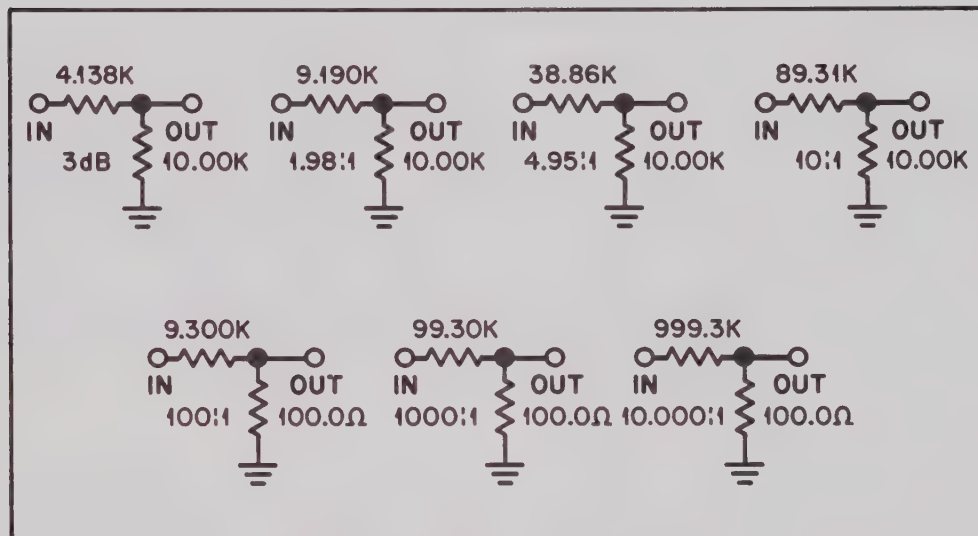

Figure V-1. ATTENUATOR SUITABLE FOR
(8) Set of Attenuators, 0.2% accurate with a 600 ohm source and a 10 megohm load. Suitable attenuators are shown in Figure V-1 below. Metal film resistors with an accuracy of 0.1% are recommended.